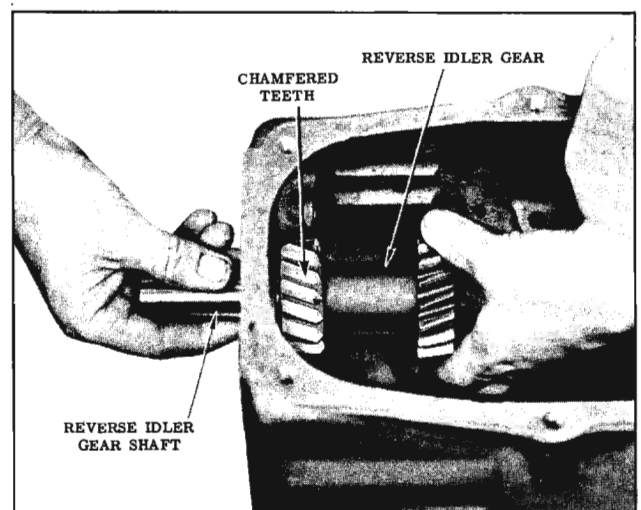

Fig. 11-19 Removing Reverse Idler Gear Shaft
25. Remove the reverse idler gear shaft, gear, and thrust washer from the case. (Fig. 11-19)